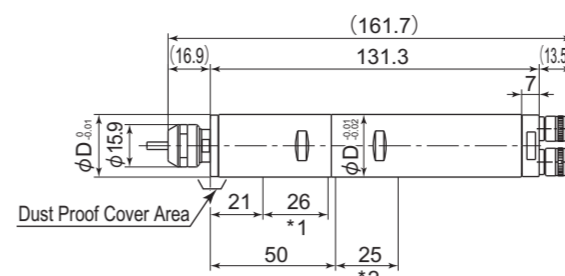
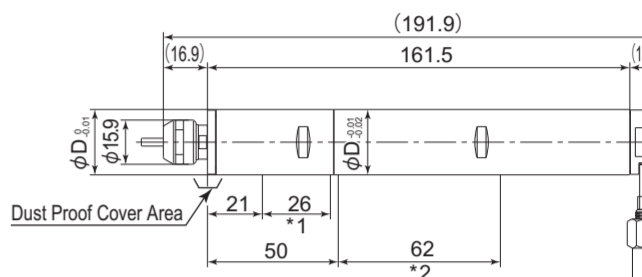

Fig. 1
Fig. 6
- When mounting a Air Motor Spindle, refer to the Clamping Area etched on the Air Motor Spindle. These Air Motor Spindle have 2 Clamping Area refer to "3 - 2 Outside View (Fig. 1 - Fig. 6).